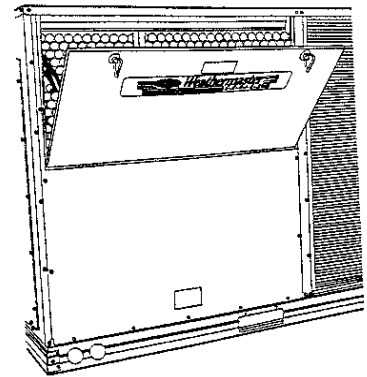

FIGURE 8
2. Slide filters (located in the hinged access panel) out of unit. Replace if dirty. **See Figure 8.**